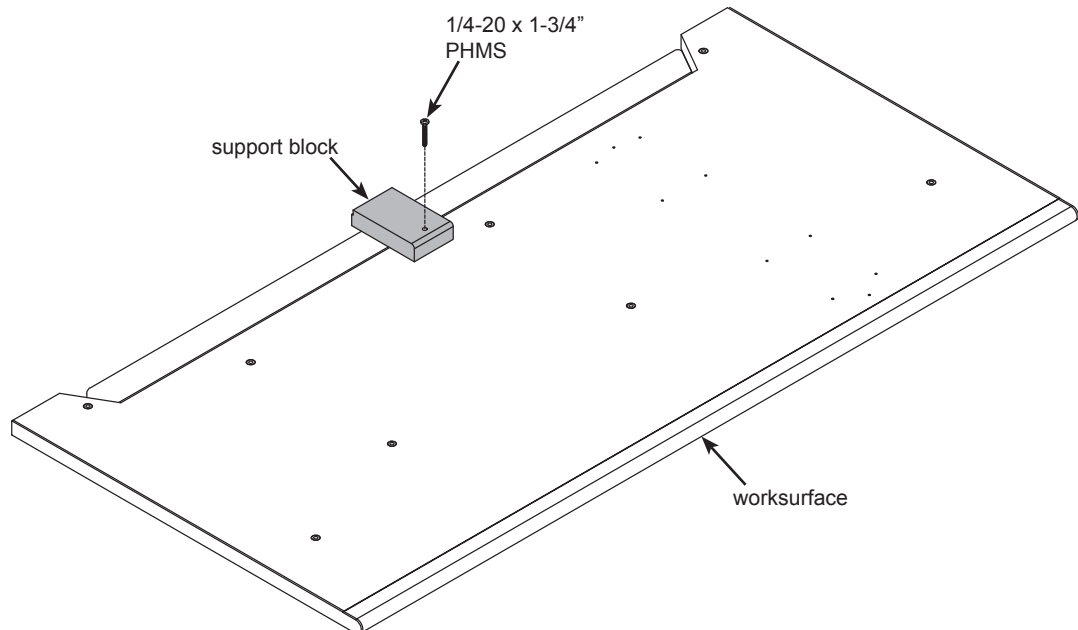

Figure 1
- Carefully flip the worksurface face down onto a non-abrasive surface as shown in **Figure 1**.
- Attach the support block with (1) 1/4-20 x 1-3/4" PHM Screw.